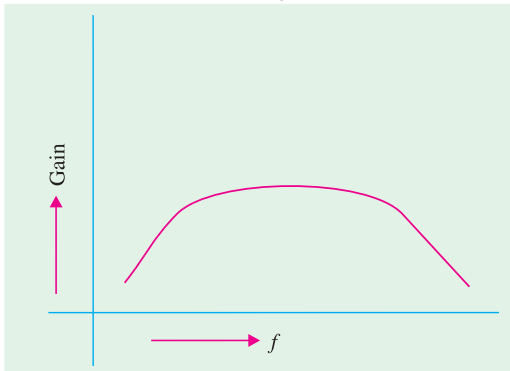

Fig. 61.47
6. Frequency response characteristic at a single-stage RC coupled amplifier is shown in Fig. 61.47. The fall in gain at both ends of the characteristic is due to